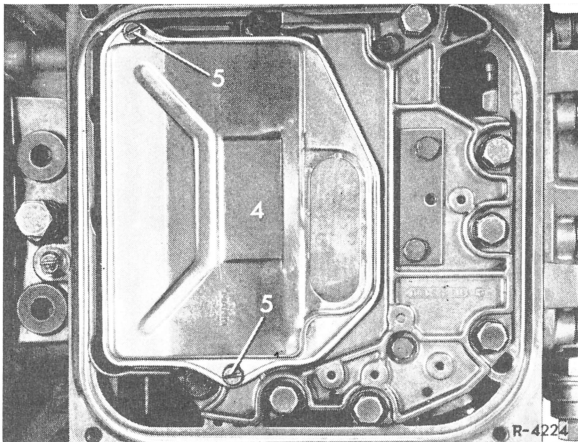
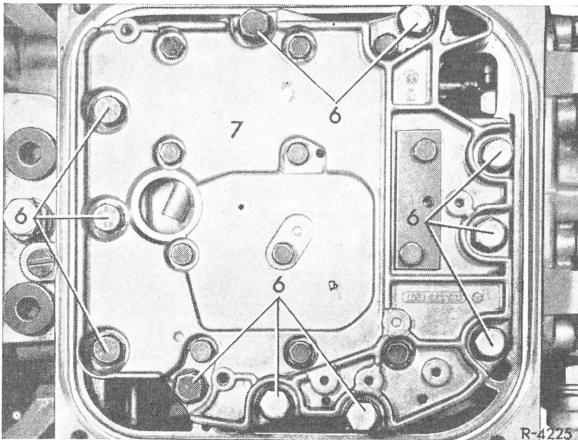

Fig. 2
Fig. 3
3 Remove oil filter (4) (Fig. 2), unscrew fastening bolts (6) of shift valve housing (7). Move range selector lever between position "P" and "R" and remove with valve housing (Fig. 3).